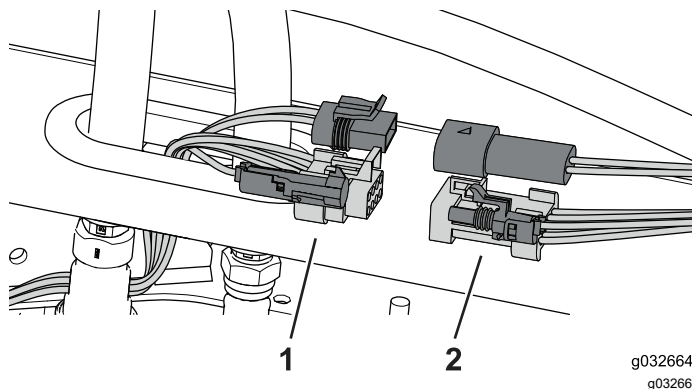

Figure 74
1. Route the wire harness from the cab toward the wire harness from the machine (Figure 74).